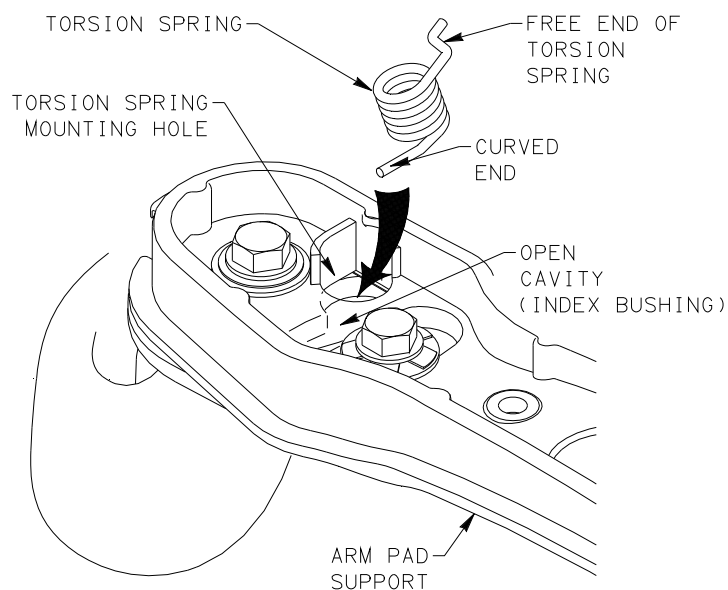

FIGURE 4
4. INSTALL TORSION SPRING INTO ARM PAD SUPPORT BY INSERTING CURVED END OF TORSION SPRING INTO OPEN CAVITY OF INDEX BUSHING THROUGH TORSION SPRING MOUNTING HOLE. THE TORSION SPRING SHOULD BE PARTIALLY SEATED INTO MOUNTING HOLE WITH FREE END OF TORSION SPRING RESTING ON ARM PAD SUPPORT. SEE FIGURE 4.